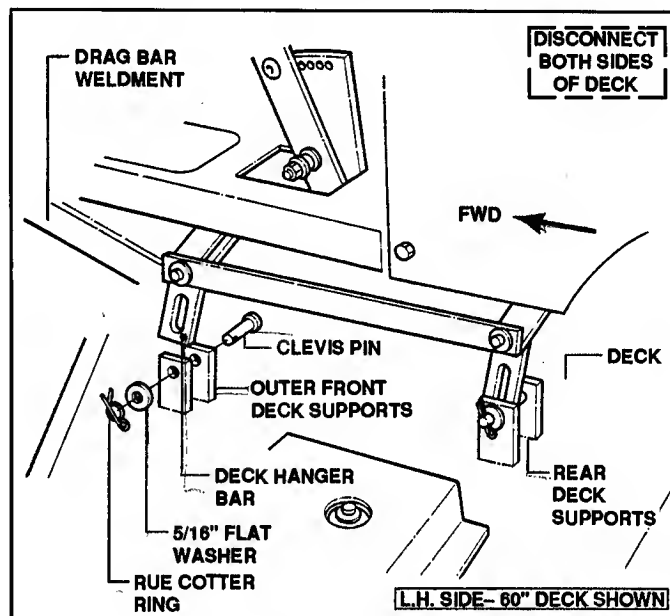

FIGURE 11.7
D. Remove the two clevis pins from the outer front deck supports and deck hanger bars. Lower front of deck to ground. See Figure 11.7.
- H. Remove the two clevis pins from the rear deck supports and deck hanger bars. Refer to Figure 11.7.